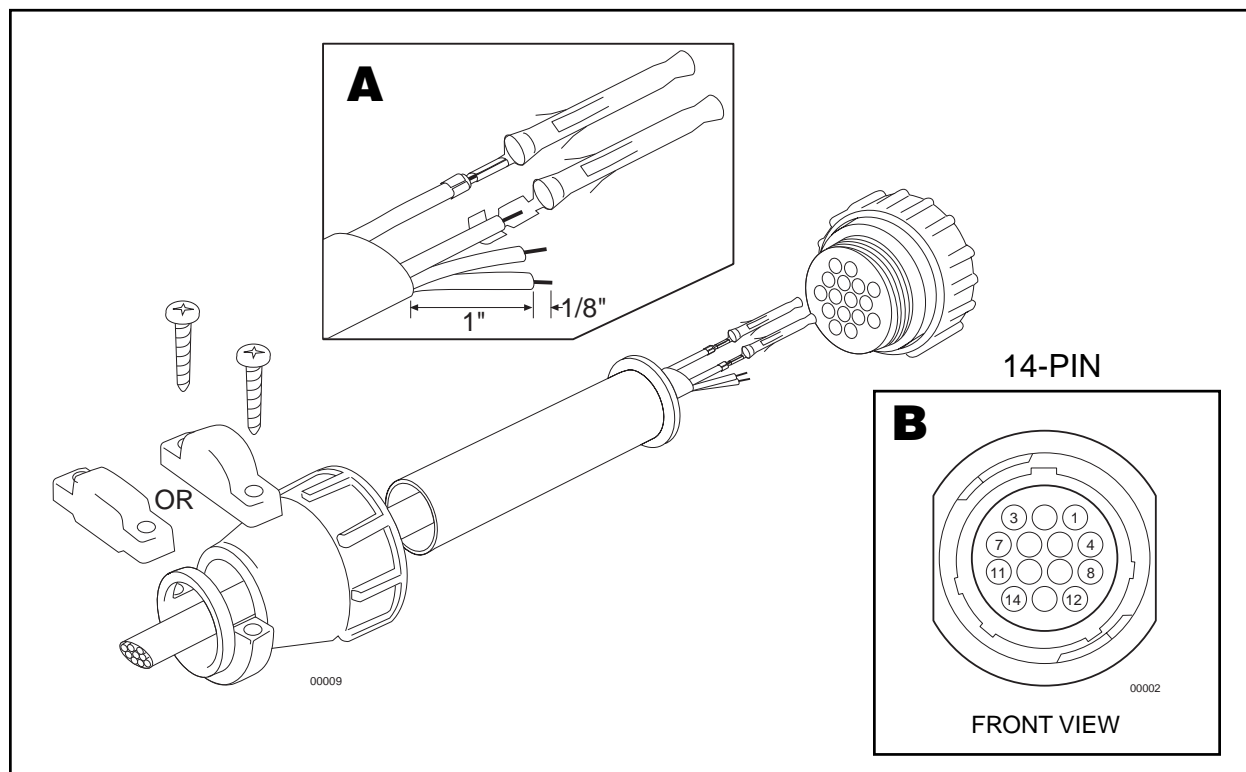
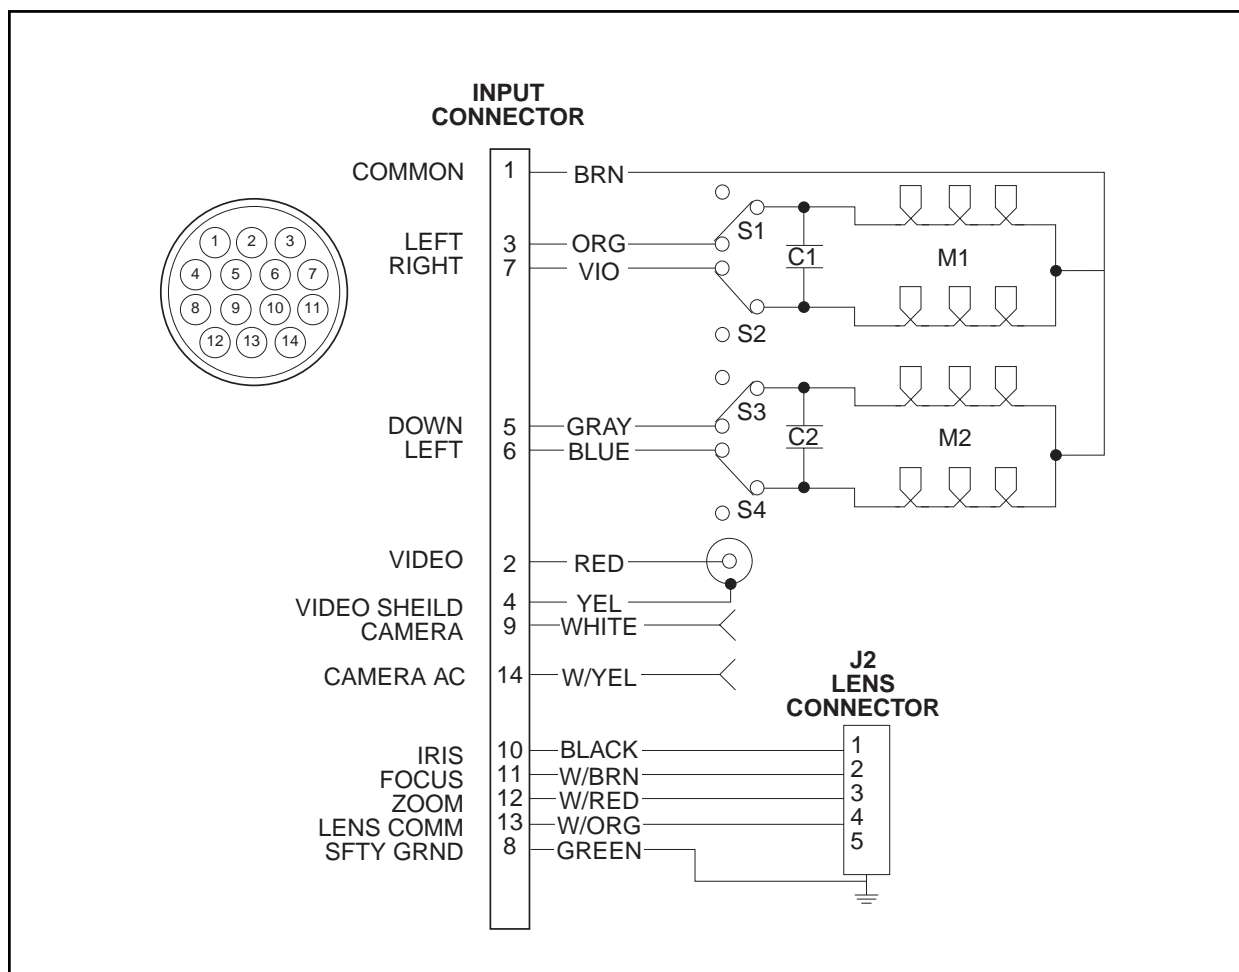

Figure 1. Connector Assembly
Figure 2. PT180-24P/PT180-24SL Wiring Diagram
To assemble the mating connector, refer to Figure 1 and perform the following steps.
2. Refer to Detail A in Figure 2. Prepare the wires from the conductor cable as follows:
3. Slide the connector pins into the appropriate holes in the connector body until they snap into place. Refer to detail B in Figure 1 and to Figure 2 for correct pin arrangement.
Refer to Figure 2 for the following steps.